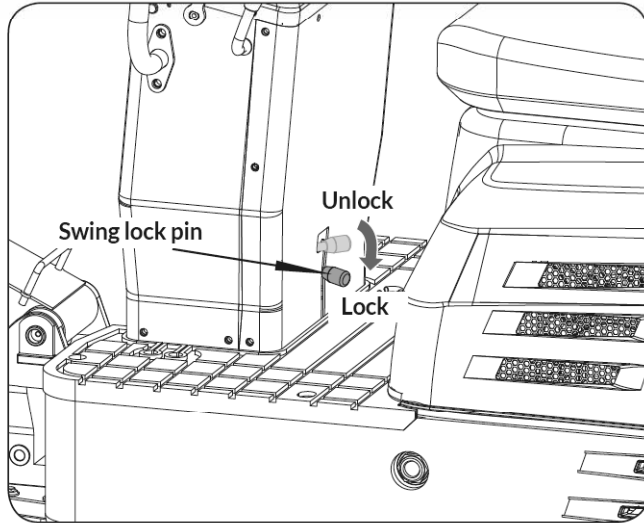

Figure 67
5. Lock the swing frame with the swing lock pin. (See **Figure 67**)